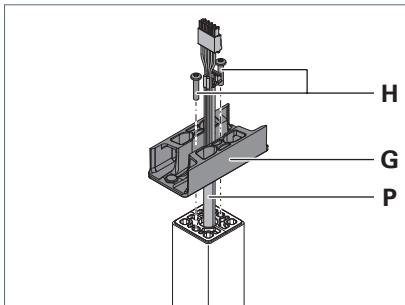

Fig. 5: Mounting the adapter on the column.
- ▶ Route the cables **P** from below through the adapter **G** and set the adapter onto the column, see Fig. 5.